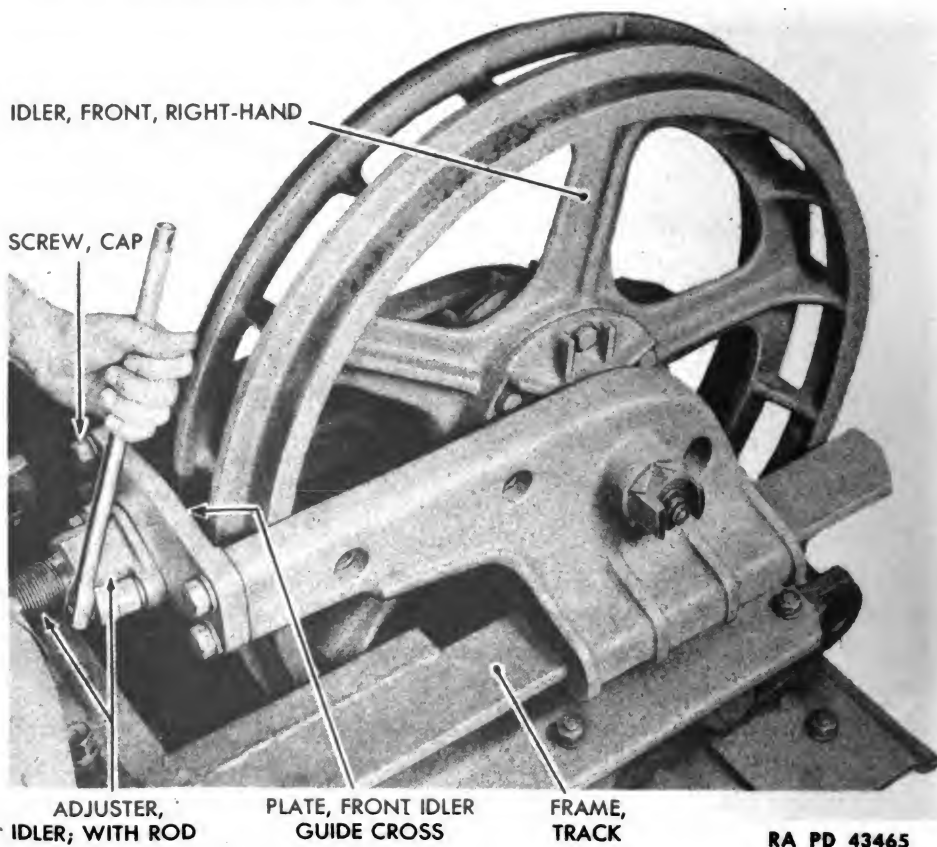

Figure 148 — Front Idler from Track Frame Removal
(2) REMOVE RIGHT FRONT IDLER (fig. 148).